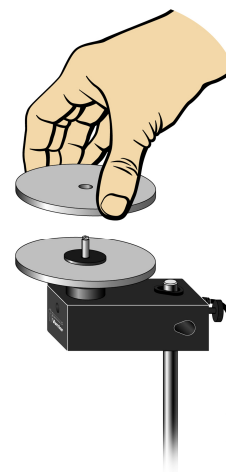

Figure 3
7. Find the mass of the steel disk. Measure the diameter of both the central hole and the entire disk. Replace the first aluminum disk with the steel disk and hub and tighten the screw as before (see Figure 3).